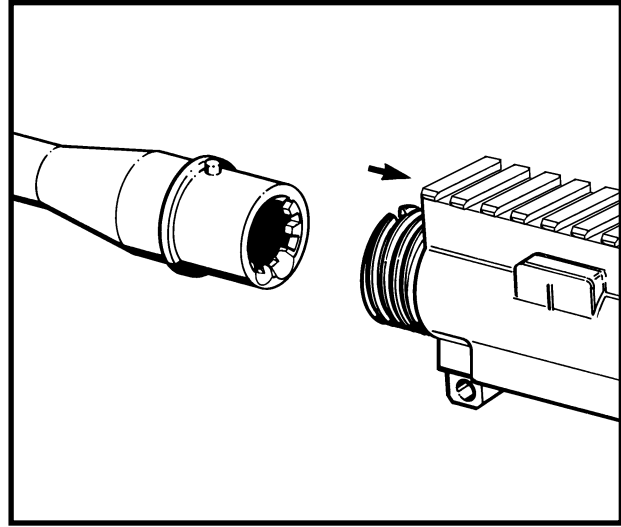

Figure 3-2-15 Separating the Barrel and Upper Receiver Assemblies
- g. Separate the barrel assembly and upper receiver by pulling rearward on the upper receiver. See Figure 3-2-15.